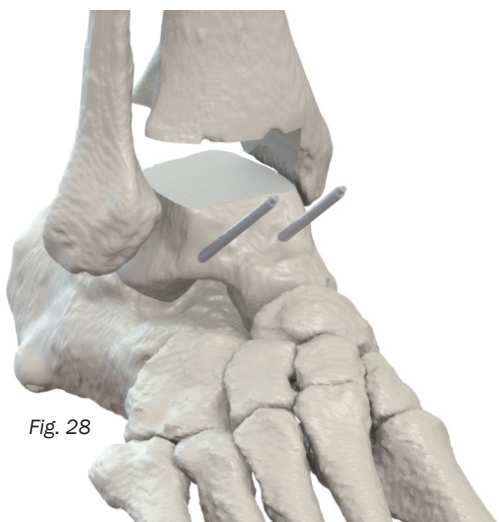

Fig. 28
2.13 Remove the Tibial Trial (Fig. 28).